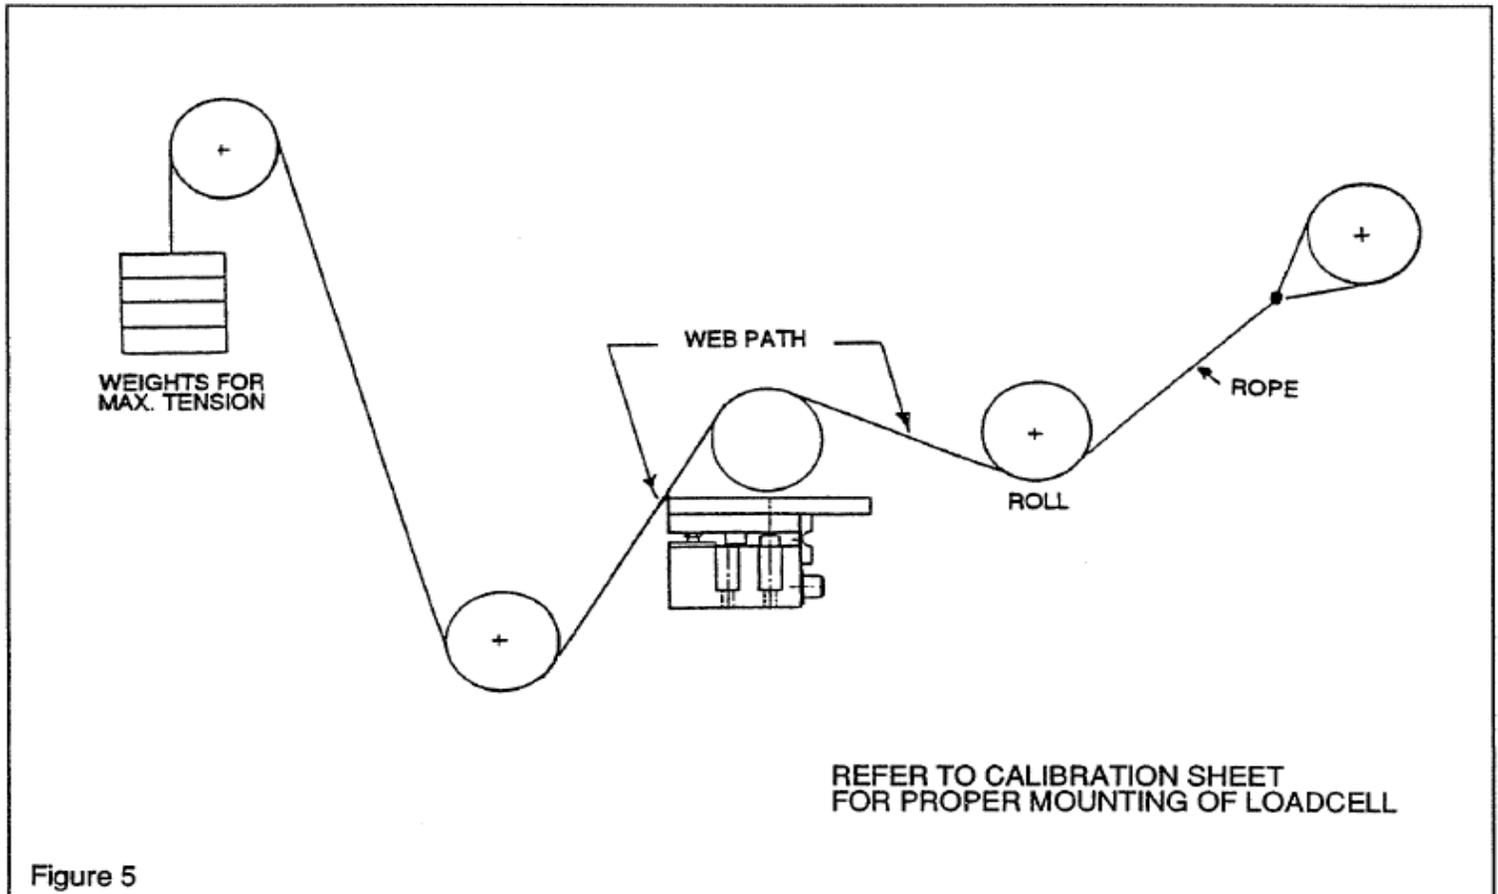

Figure 5
2. With one end of the rope secured, hang a known weight, equally over the roll so that the total tension is equal to the maximum strip tension specified on the calibration sheet, at the other end. (See Figure 5)